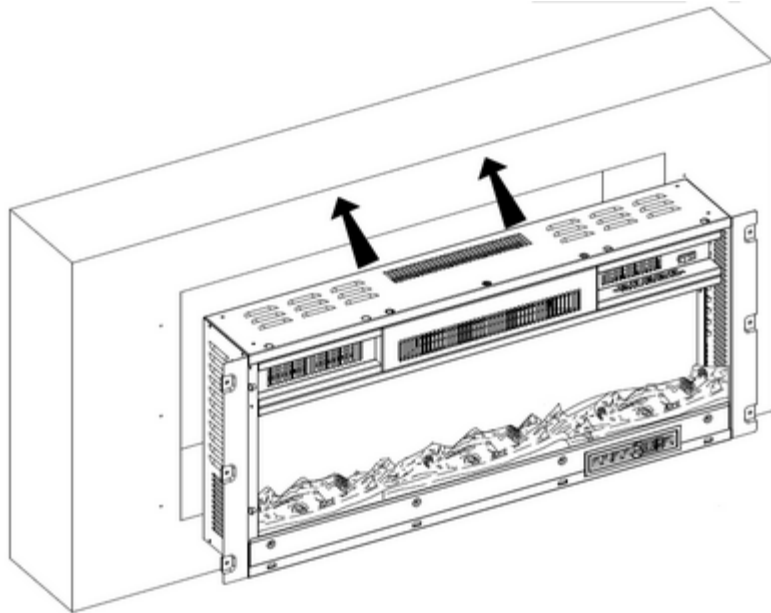

Fig.1
- Take the glass from the appliance first, then gently put the appliance to the cut hole by two persons. Please see Fig.1